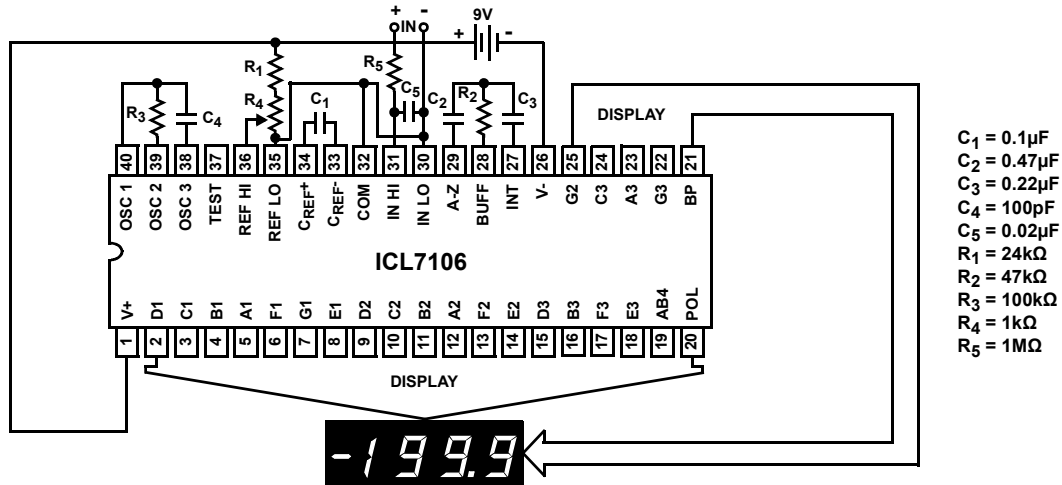
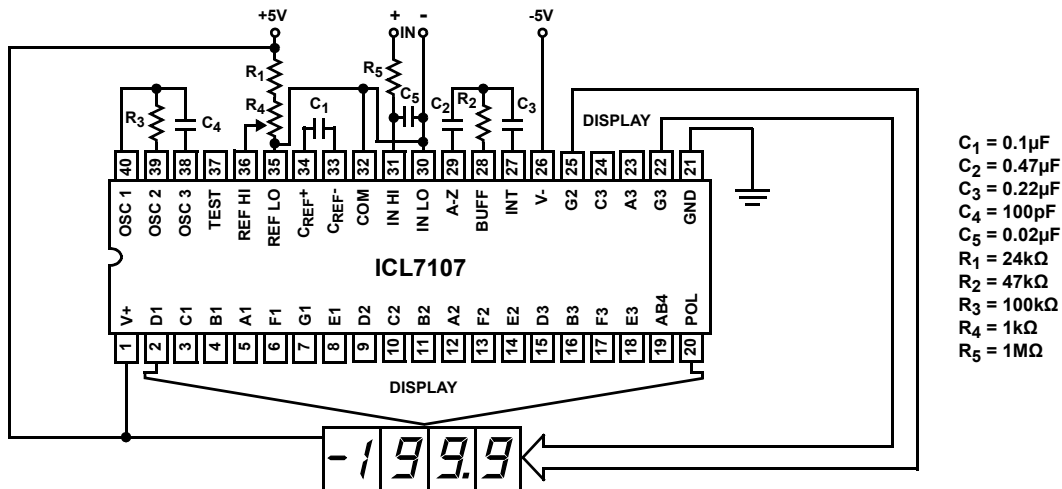

FIGURE 1. ICL7106 TEST CIRCUIT AND TYPICAL APPLICATION WITH LCD DISPLAY COMPONENTS SELECTED FOR 200mV FULL SCALE
FIGURE 2. ICL7107 TEST CIRCUIT AND TYPICAL APPLICATION WITH LED DISPLAY COMPONENTS SELECTED FOR 200mV FULL SCALE
8. Unless otherwise noted, specifications apply to both the ICL7106 and ICL7107 at T_A = +25 °C, f_{CLOCK} = 48kHz. ICL7106 is tested in the circuit of Figure 1. ICL7107 is tested in the circuit of Figure 2.